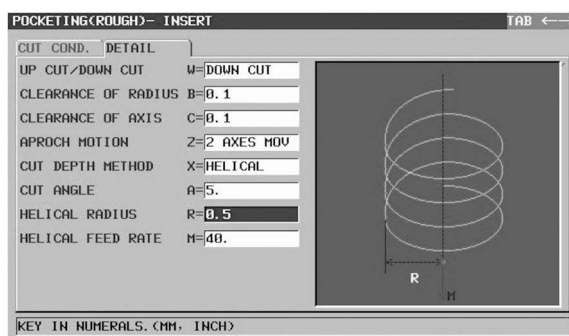

Figure 7-61 POCKETING (ROUGH), HELICAL RADIUS
- Set the HELICAL RADIUS $R=0.5$ per Figure 7-61.